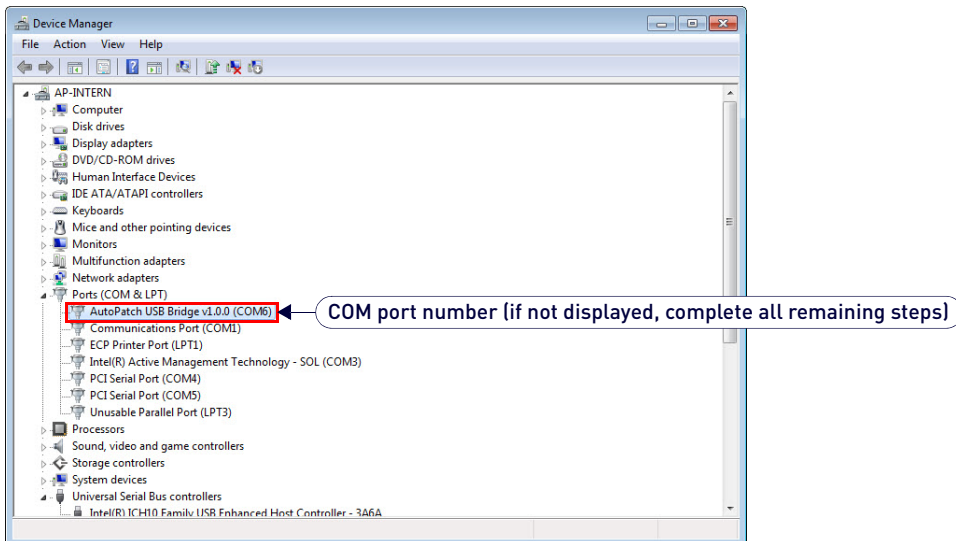

FIG. 174 Device Manager
8. If the AutoPatch USB Bridge port specifies the COM number, go to Step 11. If the port does not specify a COM number, right-click the **AutoPatch USB Bridge**, select **Properties**, and complete all remaining steps (FIG. 174):